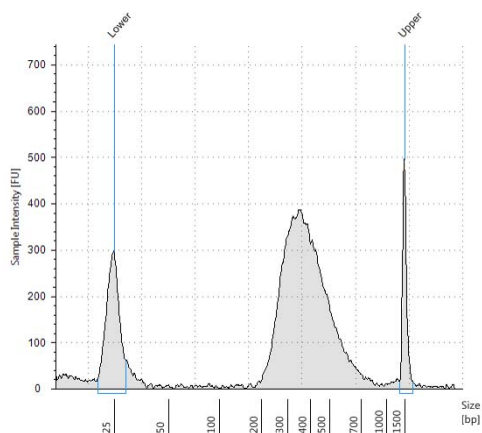
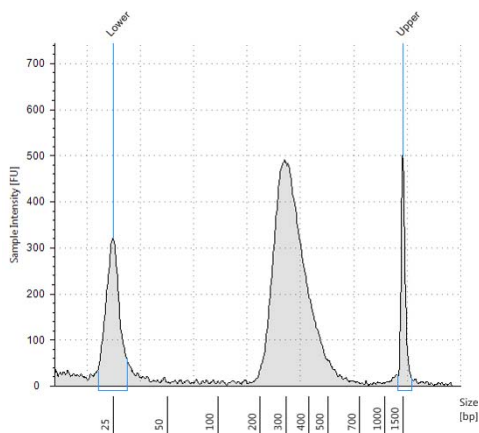
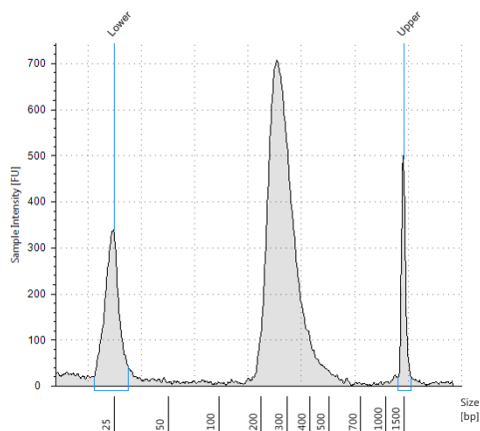

Figure 11 Post-capture library prepared from a high-quality gDNA sample analyzed using a High Sensitivity D1000 ScreenTape assay.
Figure 12 Post-capture library prepared from a typical FFPE gDNA sample analyzed using a High Sensitivity D1000 ScreenTape assay.
Figure 13 Post-capture library prepared from a low-quality FFPE gDNA sample analyzed using a High Sensitivity D1000 ScreenTape assay.
- 3 Verify that the electropherogram shows the peak of DNA fragment size positioned between 200 and 400 bp. Sample electropherograms are shown in Figure 11 (library prepared from high-quality DNA), Figure 12 (library prepared from medium-quality FFPE DNA), and Figure 13 (library prepared from low-quality FFPE DNA).